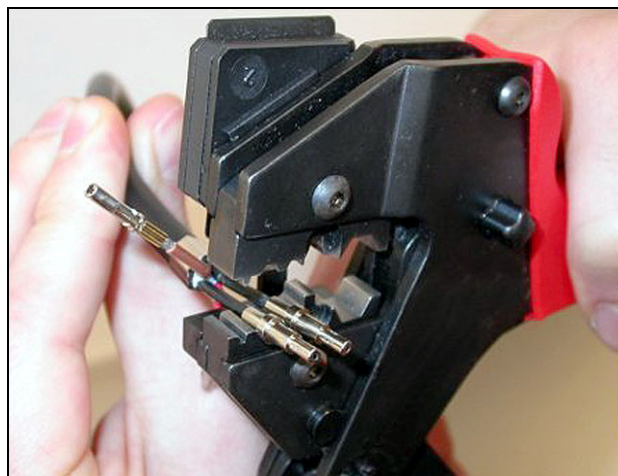

figure 29.24: Crimping ferrules (2)
- 24 Put both ferrules in the crimping tool (tool 3, see figure 29.24).